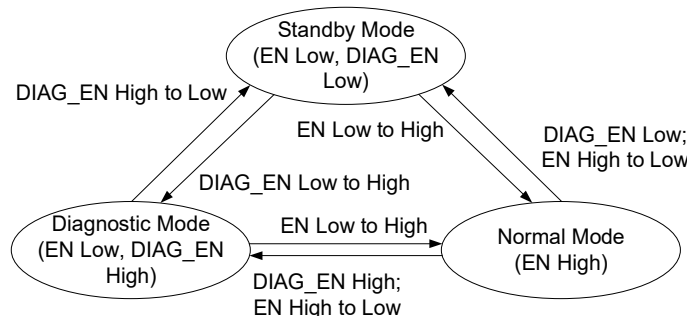

Figure 1: Operation Mode State Machine
5. For information on standby mode, diagnostic mode, and normal mode, refer to the MPQ5872's datasheet. Figure 1 shows the operation mode state machine.